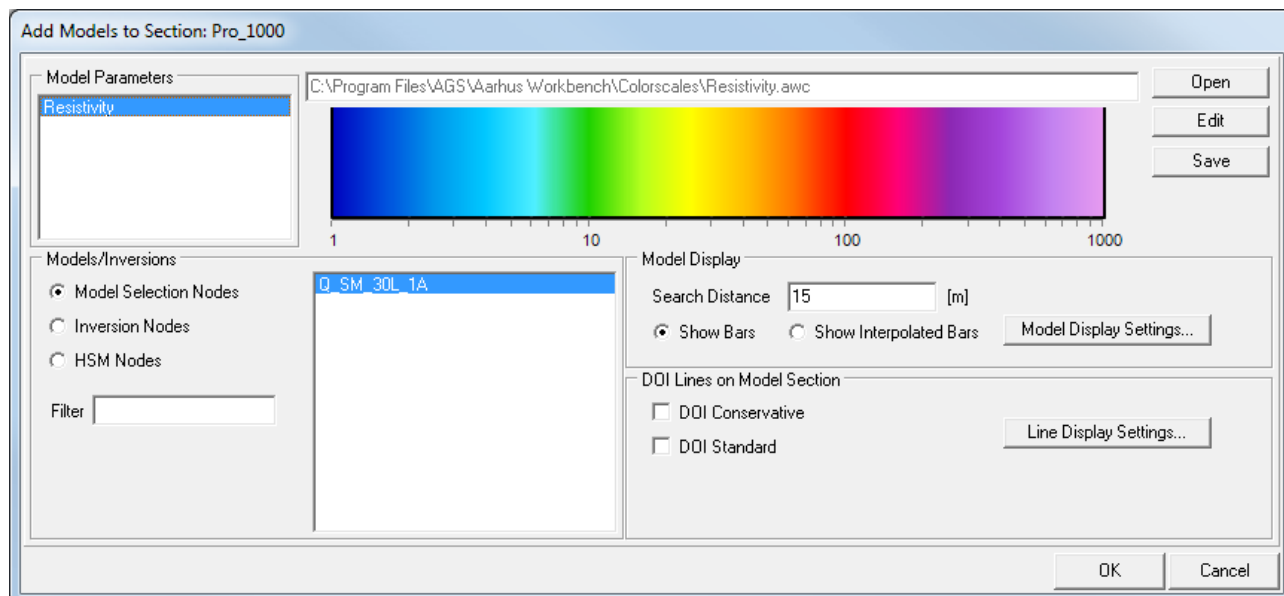

Figure 8.1: Adding Models. Use the F1 wiki help to read more about the setup.
- Here we can add models to the section (see figure 8.1). It can be done directly from inversion nodes or from the earlier made model selection. This include inversions and model selections